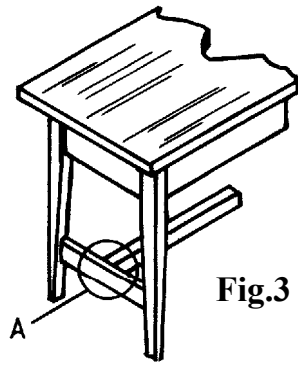

Fig.3
10. Sketch details of the type of joint at "A" in Fig.3.